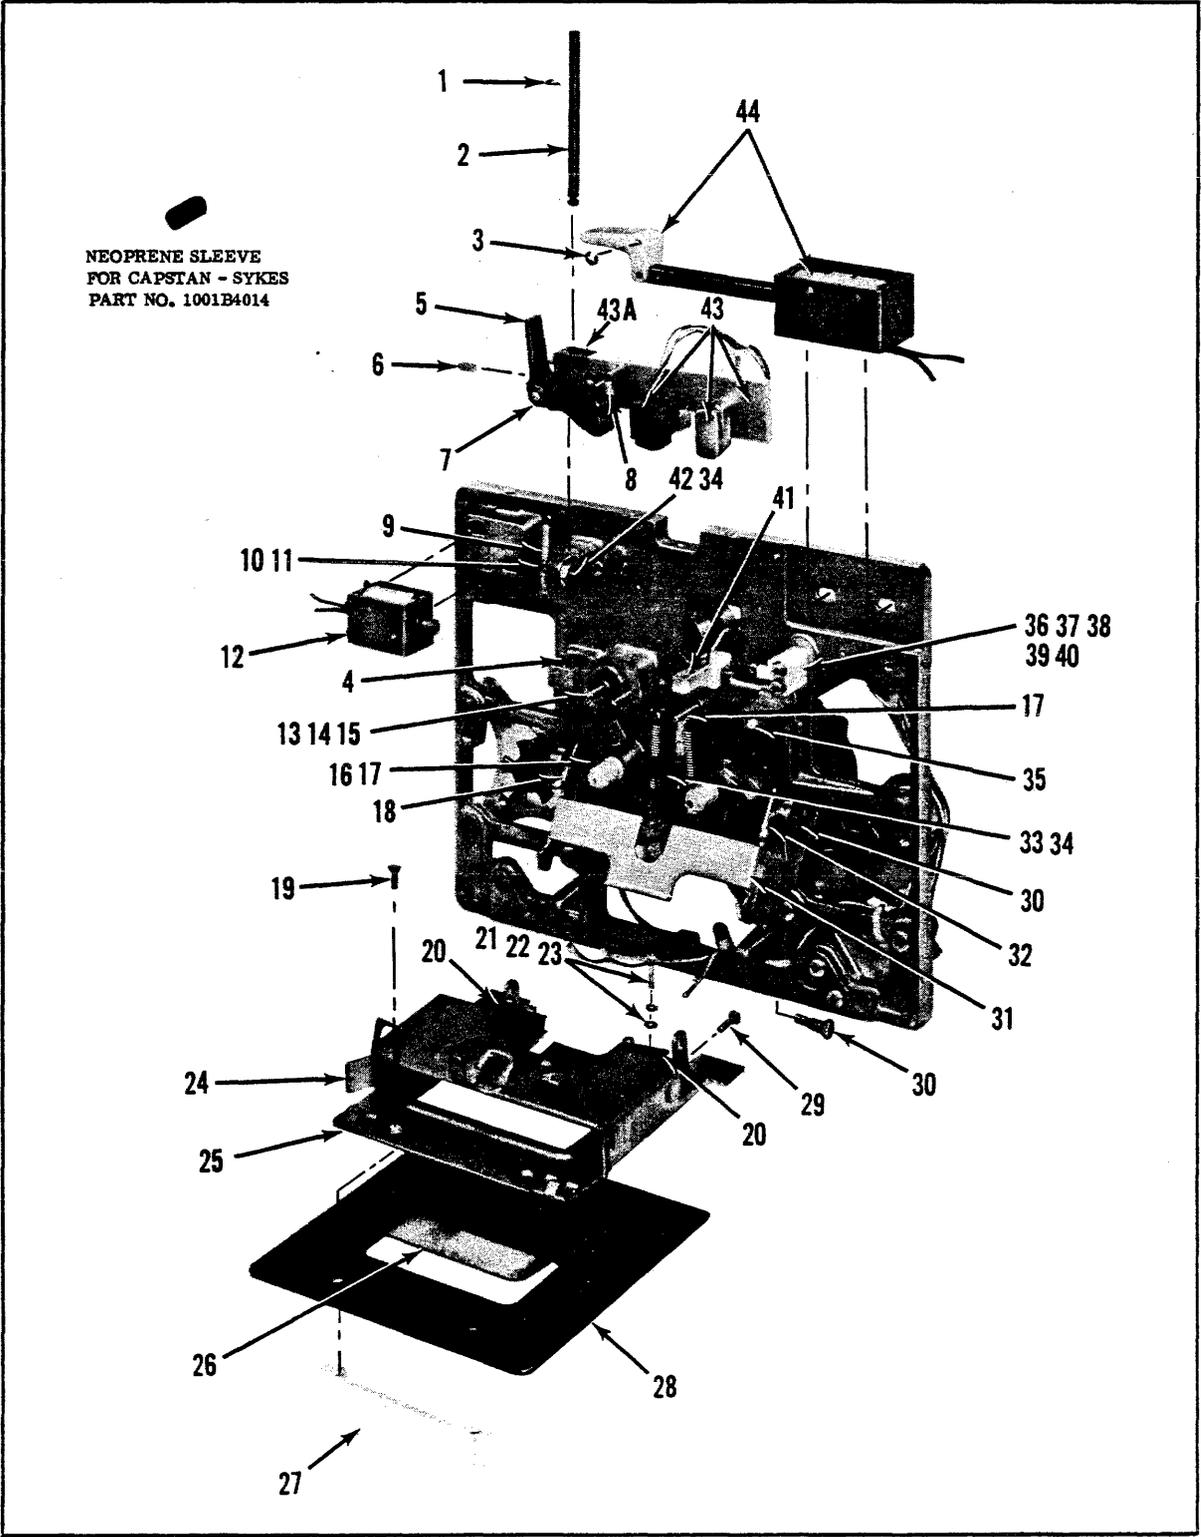

FIGURE 3-7 EXPLODED FRONT VIEW OF TT120 TRANSPORT
3. Remove the two mounting screws. (See Figure 3-7).